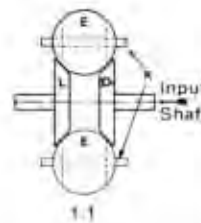
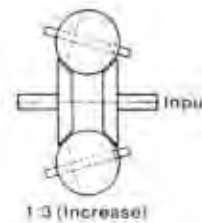
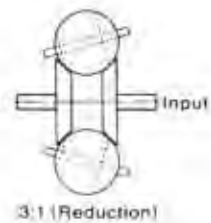

Figure 2
Figure 3
Figure 4
It will be apparent that when the ball spindles (K) are parallel to the drive shafts (Fig. 2) the ratio is 1:1 as the diameters on the drive balls (E), at the points of contact with the drive cones (D) and (L) are equal. When, as previously described, the ball spindles are tilted by the movement of the iris plate, the relative diameters of the drive balls at the points of contact with the drive cones are changed. One direction of tilt reduces the output speed (Fig. 3) whereas the reverse direction of tilt increases the output speed (Fig. 4).